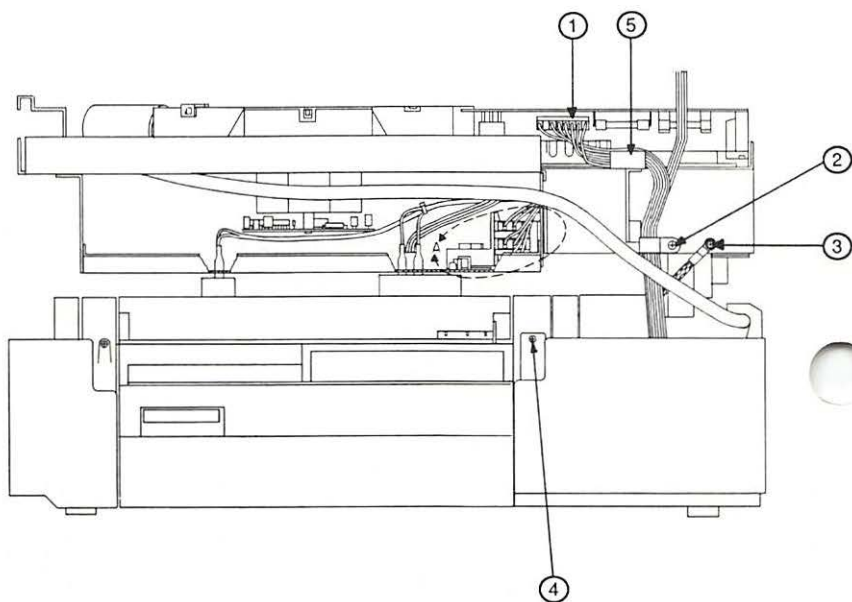

FIGURE 2-42
4. Disconnect the cable from J501 on the DC Power Supply/Motor Drive PCB (Figure 2-42, #1).
5. Remove the plastic clamp that holds the cables from the last two steps (Figure 2-42, #2).
6. Disconnect the silver-braided ground wire from the upper main body (Figure 2-42, #3).